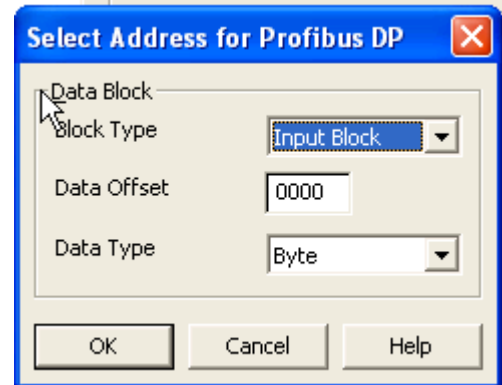

FIG. 64: Select Block Type
- Select the data offset, which points the address to read or write in the block. Select the data type to read or write. This defines how many bytes to access in the block to get the correct data. In this example we choose **output block**, with data offset **0** (Which points to 256 in the PLC) and as a **Word**. FIG. 64.